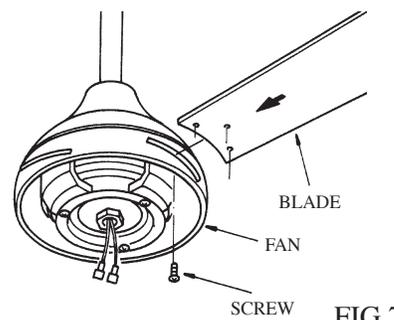

FIG.7
1. Attached each blade to the fan body using the blade screws & provided. Tighten them securely (see FIG 7).